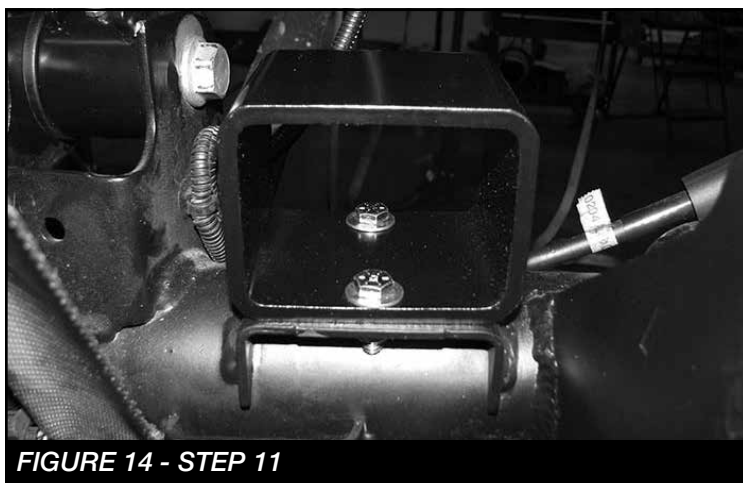

FIGURE 14 - STEP 11
11. Locate and install FT50401BK (Rear Bumpstop Spacer) using the supplied 5/16" hardware. Torque to 29 ft-lbs. **SEE FIGURE 14**